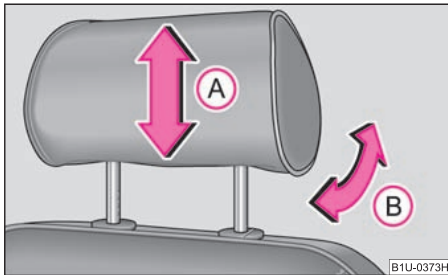

Fig. 62 Adjusting head restraint
- Grasp the side of the head restraint with both hands and push it up or down in direction of arrow (A) ⇒ fig. 62.
- The head restraint can be matched to the head of the occupant by adjusting the angle in the direction of the arrow (B) ⇒ fig. 62. Adjusting the angle of the head restraint provides enhanced comfort for the user.